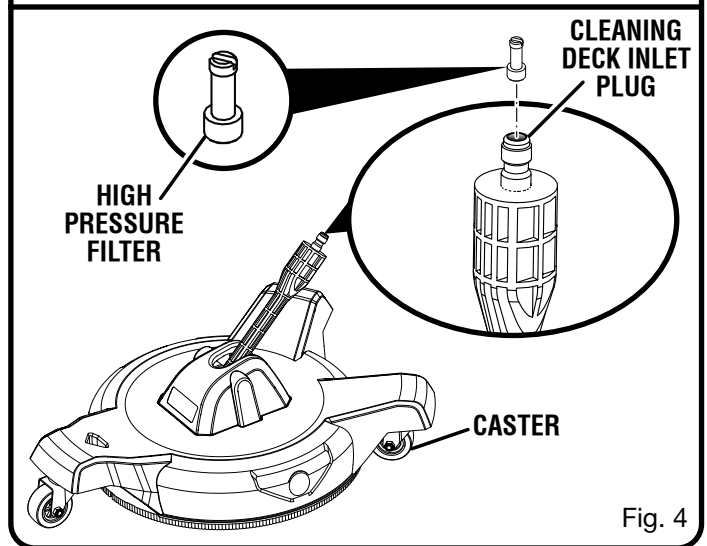

Fig. 4
See Figure 4.
- Place a flat head screwdriver in the slot of the high pressure filter inside the cleaning deck inlet plug, shown in figure 4, and